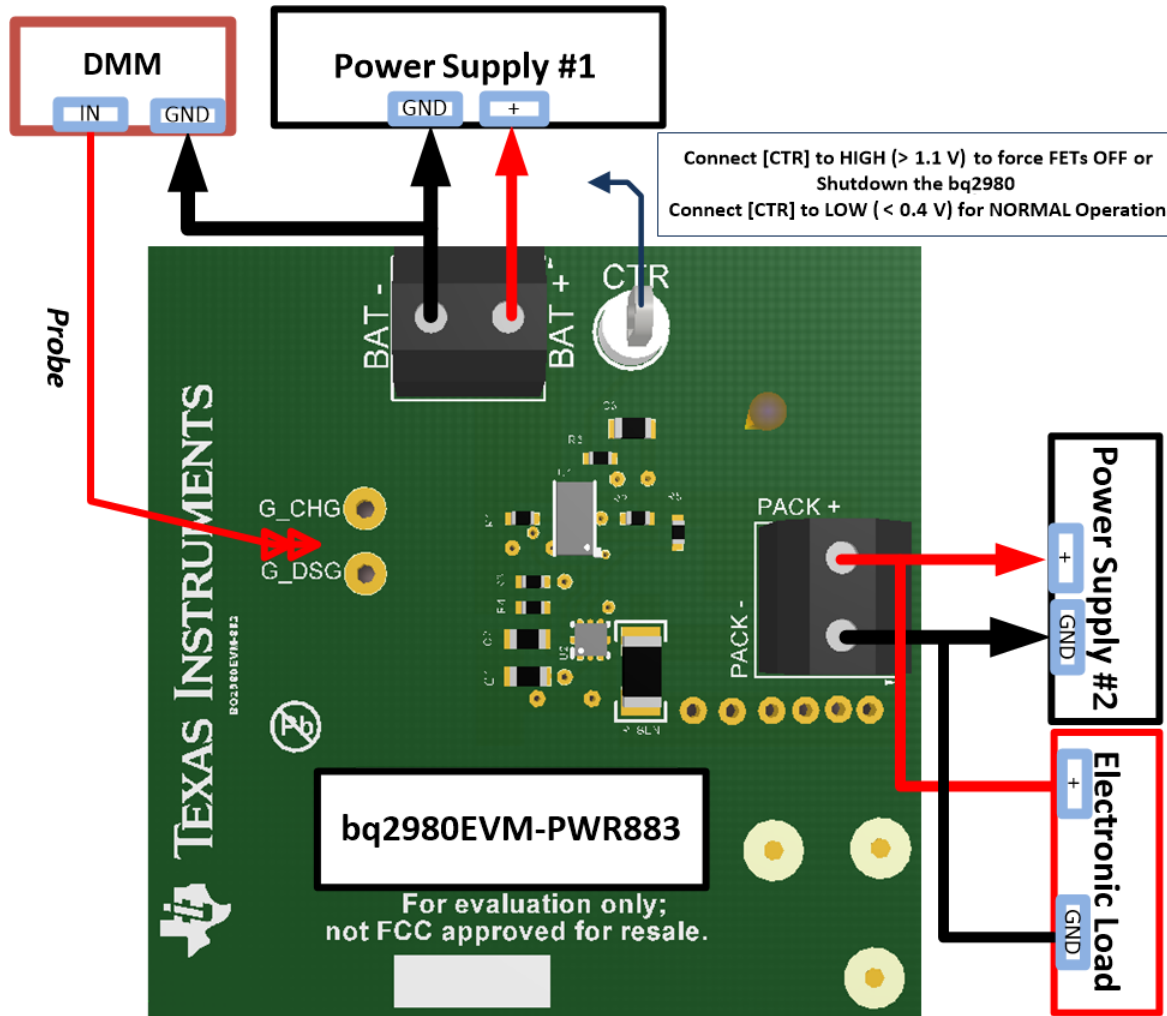

Figure 1. bq2980EVM-PWR883 Connection for Basic Operations
This section covers the hardware connections for the bq2980EVM-PWR883 (see Figure 1).
1. Connect adjustable power supply #1 - (VBAT) as cell connection between the BAT+ and BAT– terminals as in Figure 1.
2. Connect adjustable power supply #2 - (VPACK) as the charger between the PACK+ and PACK– terminals as in Figure 1. The bq2980 will power up (starts up) at SHUTDOWN mode assuming undervoltage fault. If approximately 2 V is on PACK+, the device comes out of the SHUTDOWN assuming zero-voltage charging, hence the CHG FET will be ON. However, the DSG FET will still be OFF because the device assumes undervoltage fault.
3. Connect electronic load between the PACK+ and PACK– terminals, as required, refer to Figure 1.